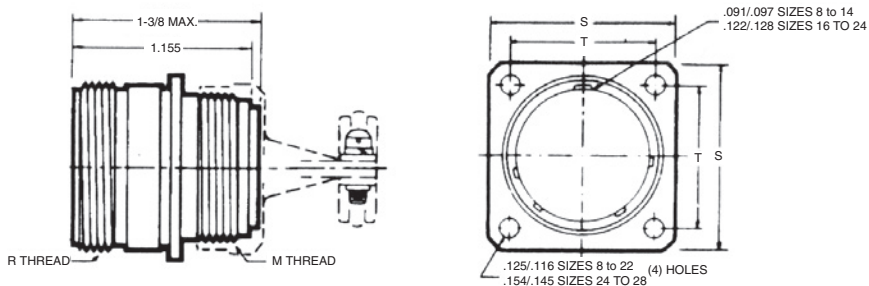

Figure 3-4. FF Style Connector
C. Style FF-Female Flanged (see Figure 3-4)